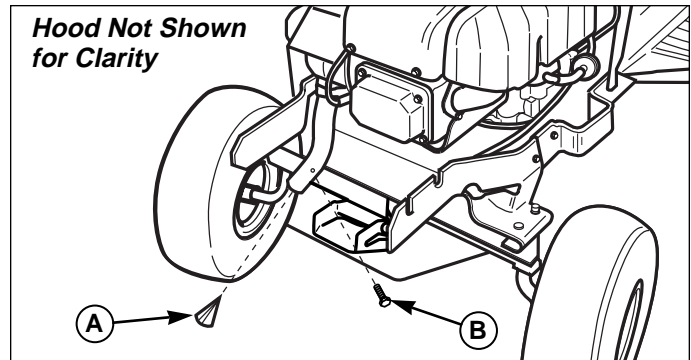

Figure 15. Clean / Replace Exhaust Screen
2. Remove the screw (B, Figure 15). Using a pair of pliers, remove the exhaust screen (A).